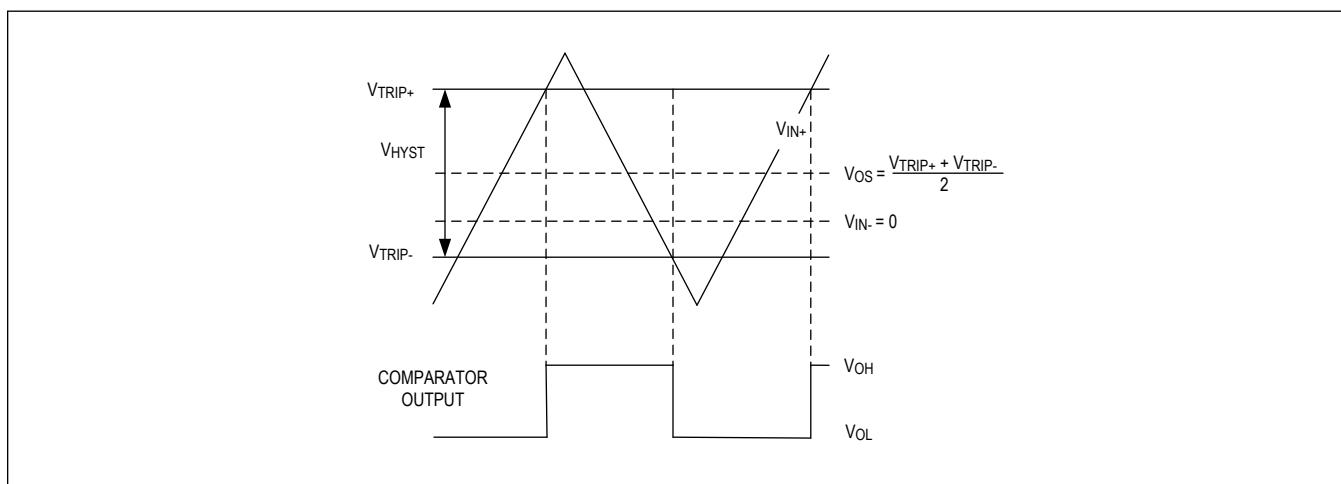

Figure 1. Input and Output Waveform, Noninverting Input Varied
**Note 3:**  $V_{OS}$  is defined as the center of the input-referred hysteresis zone. See Figure 1.
**Note 4:** The input-referred trip points are the extremities of the differential input voltage required to make the comparator output change state. The difference between the upper and lower trip points is equal to the width of the input-referred hysteresis zone. See Figure 1.
The hysteresis in a comparator creates two trip points: one for the rising input voltage and one for the falling input voltage (Figure 1). The difference between the trip points is the hysteresis. The average of the trip points is the offset voltage. When the comparator's input voltages are equal, the hysteresis effectively causes one comparator input voltage to move quickly past the other, thus taking the input out of the region where oscillation occurs. Standard comparators require hysteresis to be added with external resistors. The device's fixed internal hysteresis eliminates these resistors. To increase hysteresis and noise margin even more, add positive feedback with two resistors as a voltage-divider from the output to the non-inverting input.
Figure 1 illustrates the case where IN- is fixed and IN+ is varied. If the inputs were reversed, the figure would look the same, except the output would be inverted.